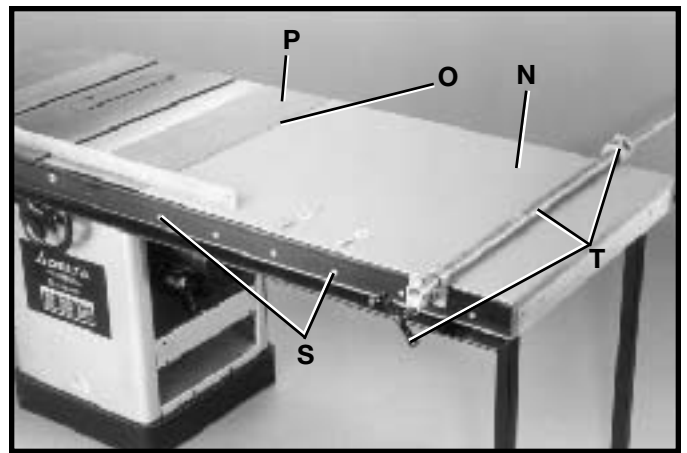
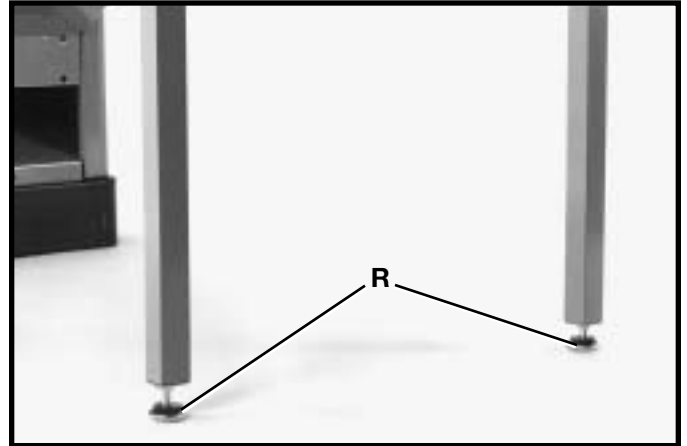

Fig. 19
Fig. 20
1. Place table assembly (N) Fig. 19, in position between the two rails, as shown. Make sure end of table (O) is flush against extension wing (P) and using a bar clamp (T) snug up end of rails to hold table in position. Using a straight edge make sure table (O) is in the same plane and level with saw table (P). Lightly tap table up or down and adjust leveling screws (R) Fig. 20, in bottom of legs to accomplish this. When you are certain table (O) Fig. 19, is level and in the same plane with saw table (P), tighten bar clamp (T) to hold everything in position. Then drill 1/4" through holes through the front and rear of the extension table using the holes (S) provided in rails as template.